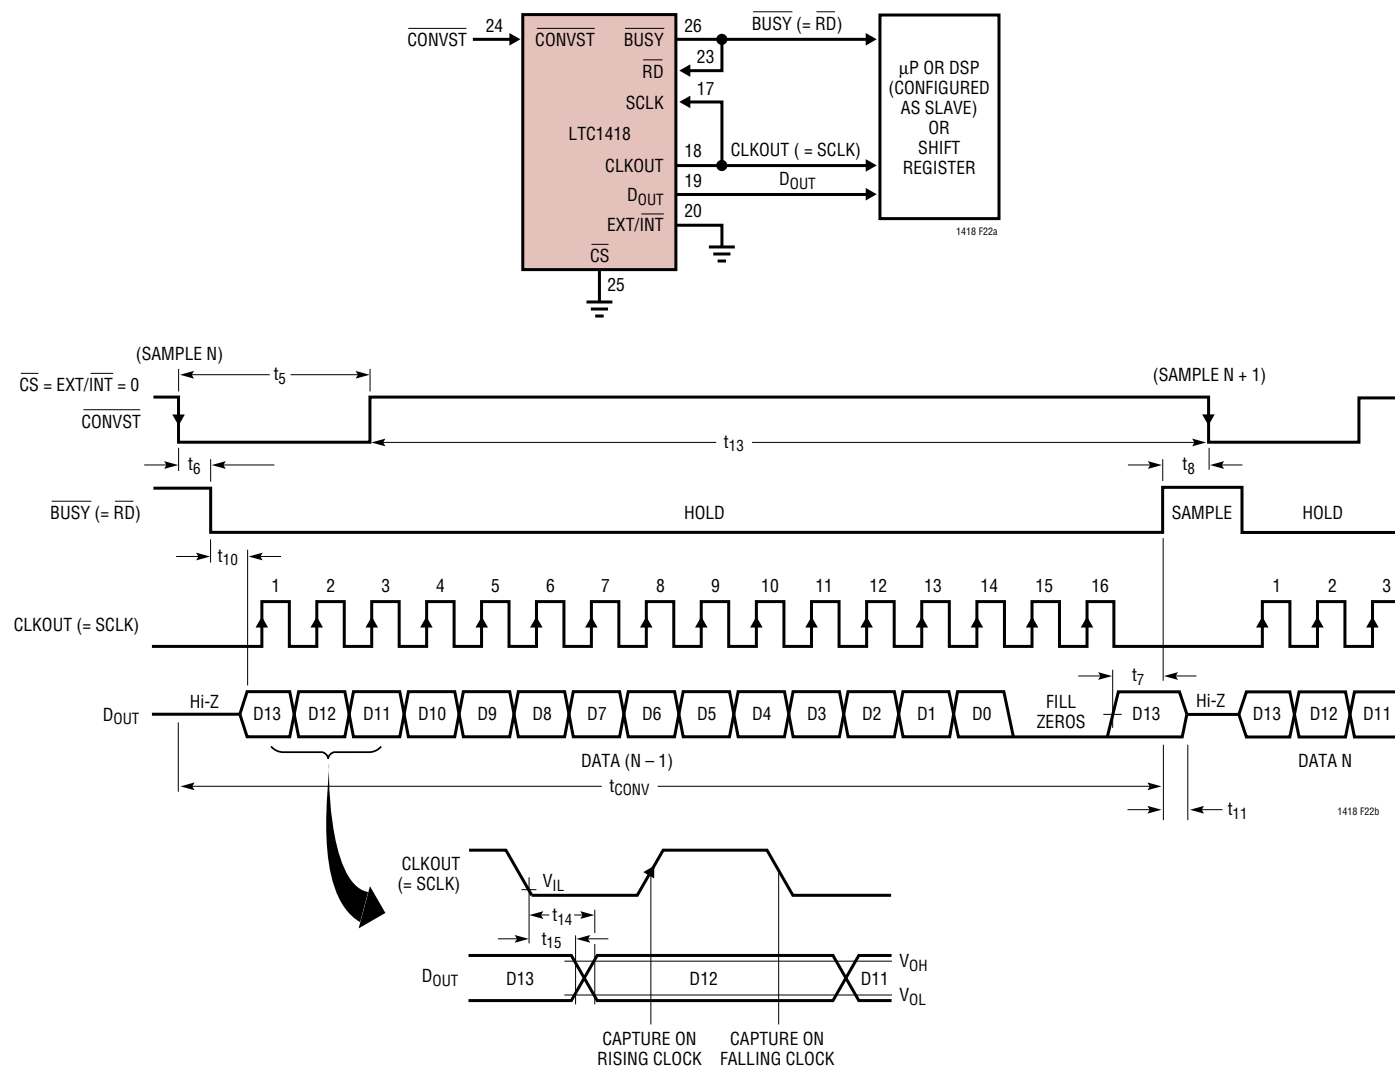

Figure 22. Internal Conversion Clock Selected. Data Transferred During Conversion Using the ADC Clock Output as a Master Shift Clock (SCLK Driven from CLKOUT)
Figures 22 to 25 show several serial modes of operation, demonstrating the flexibility of the LTC1418 serial port.
**Using Internal Conversion Clock for Conversion and Data Transfer.** Figure 22 shows data from the previous conversion being clocked out during the conversion with the LTC1418 internal clock providing both the conversion